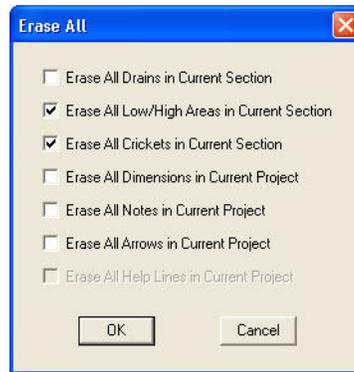

Figure 8–10 Erase All dialog box
3. Click **Erase All Low/High Areas in Current Section**, and click **Erase All Crickets in Current Section**, as shown in Figure 8–10.
The roof plan should now contain only the roof outline and the drain as in Figure 8–1 on page 92.